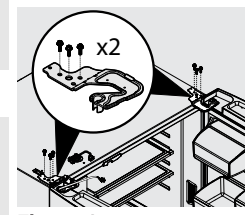

Figure 4
4. Remove three 8 mm bolts from both top hinges. See Figure 4.